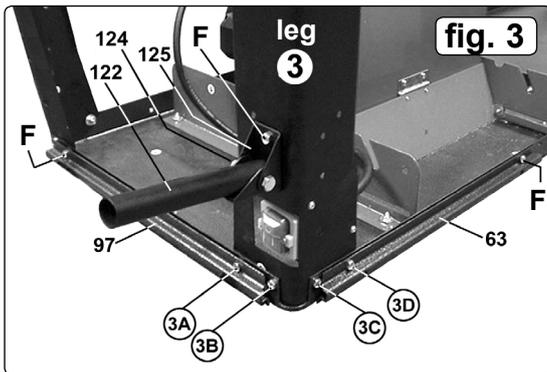

fig. 3
- 4.2** Match leg 3 to the corresponding numbered label attached to the side of the main table (See fig.3.) Use only sets of fixings at positions 3A and 3B at this stage. The other two fixing points will be shared with the fence guides which are fitted later.